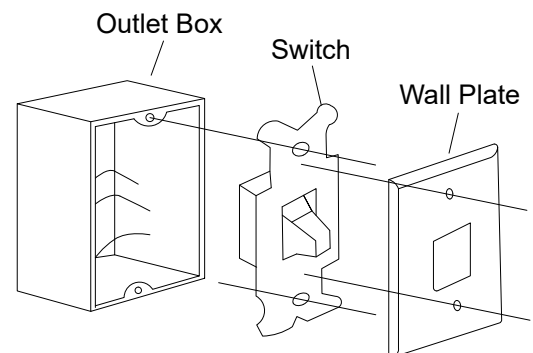

FIG. 1
Step 1. Remove the existing wall plate and the existing switch from the wall outlet box, and disconnect the wires. **(Fig. 1)**